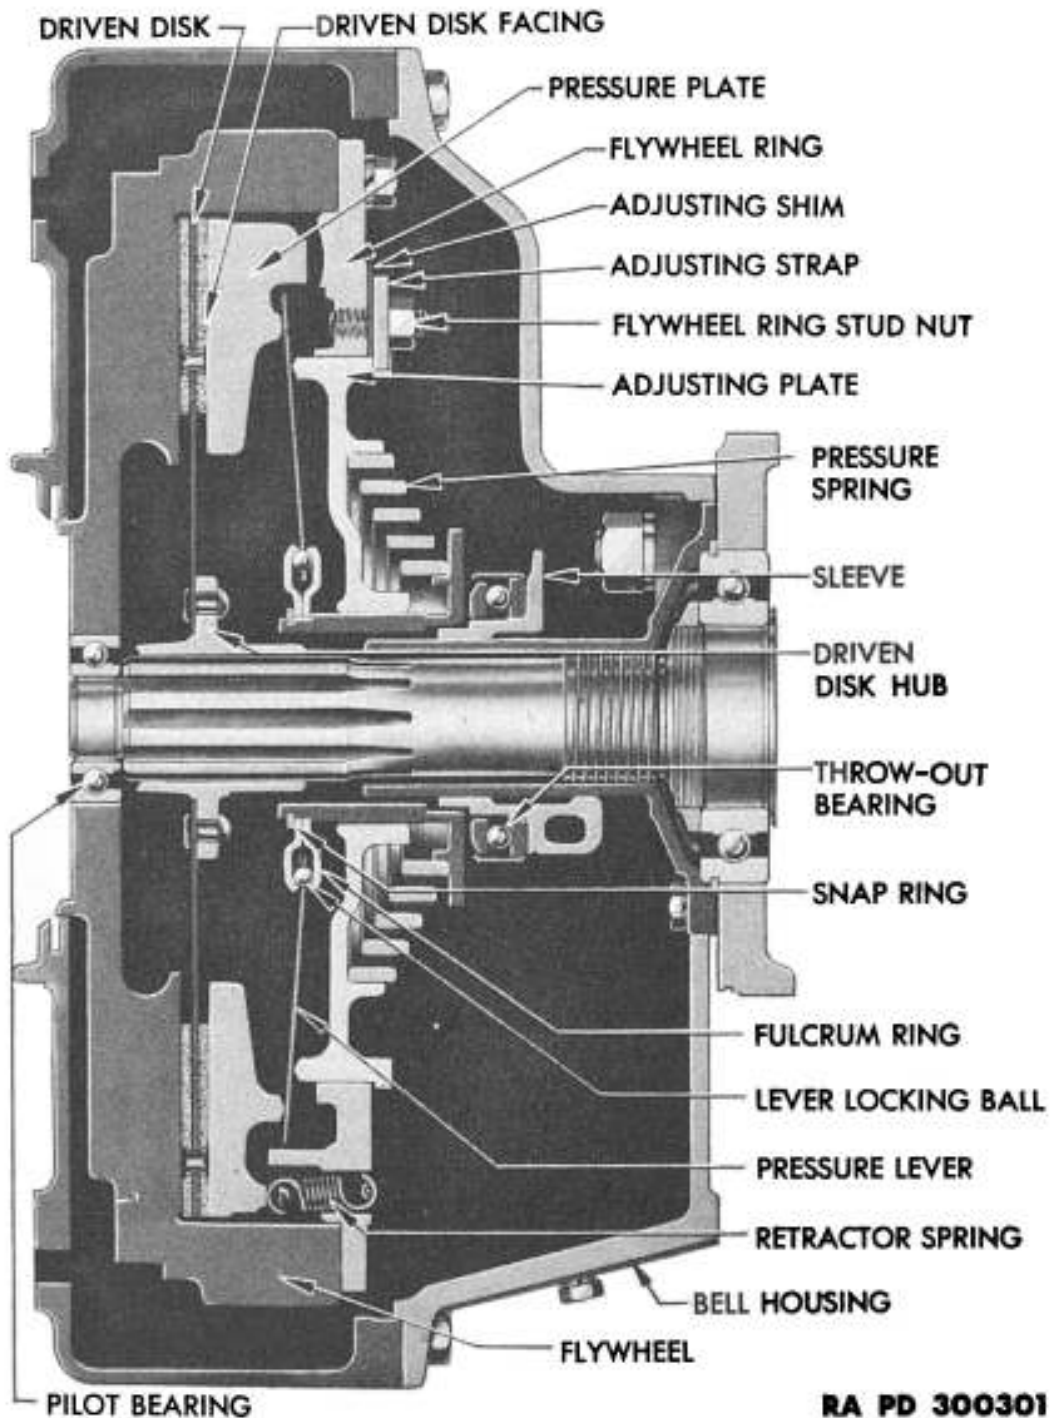

Figure 1 — Clutch — Sectional View
3. DESCRIPTION AND DATA (figs. 1 and 2).